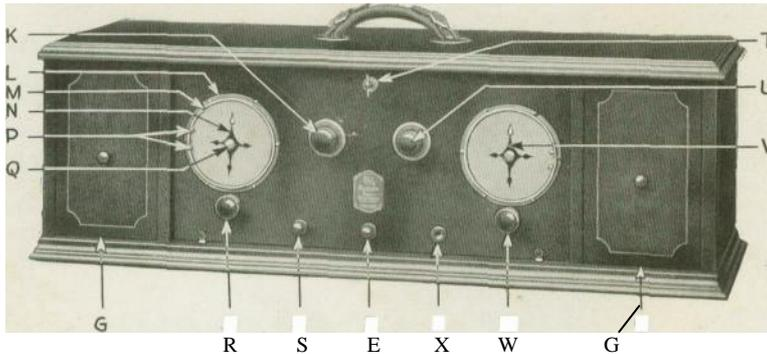

Fig. 3. Front View of Control Panel
Filaments. Pull out the filament switch E. Turn the "VOLUME CONTROL" knob U (Fig. 3) clockwise to 100. Turn the "BATTERY SETTING" knob K clockwise to the arrow mark on the dial. WITH FRESH BATTERIES, DO NOT TURN THE POINTER PAST THE ARROW MARK. THIS IS EXTREMELY IMPORTANT as you will otherwise shorten the useful life of the Radiotrons and batteries, and little will be gained in ease of tuning, signal strength or otherwise. As the batteries grow older with use, this setting should be gradually advanced from week to week toward "100." Connect the loud speaker to the telephone plug, and put the plug into the telephone jack X. Push in the amplifier switch S, which gives the full amplification of the receiver.
(1) Use a larger loop, such as Radiola Loop Antenna, Model AG-814, which gives the set the advantage of directional effect without the necessity of turning the complete receiver. Greater signal strength will also be obtained in this manner. Connect the loop between terminals 2 and 4, disconnecting the metal strap usually connected between terminals 2 and 3, on the terminal board, in the rear of the set.
(2) Use an indoor antenna connected to terminal 1. **Do** not tune the antenna. The antenna may be 20 to 30 feet long and may be located wherever convenient, say under the carpet or around the picture molding. Leave jumper J connected between terminals 2 and 3.
(3) Use a ground wire connected to terminal 1. Leave jumper J connected between terminals 2 and 8. In connection with these schemes, it will usually be found that if the set is located on the ground floor of the home, method (2) will be the better of the two; while if the set is on an upper floor, method (3) will be better. It is recommended that no attempts be made to tune the antenna connected to the set.
(4) Head telephones may be plugged into the jack X (Fig. 3), if desired.